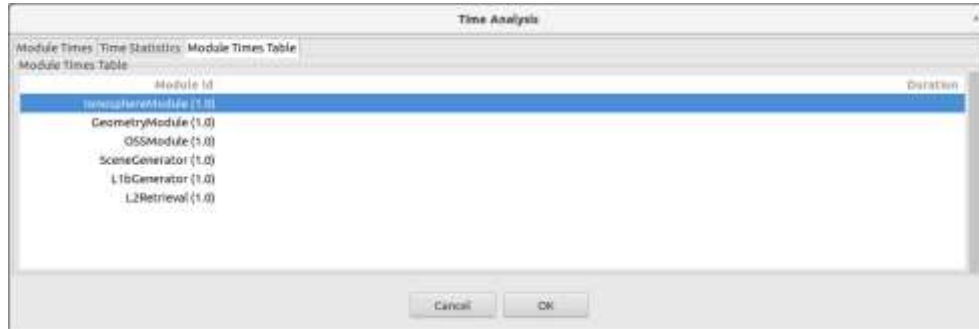

Figure 4-56: Table showing module times
- ❑ *Module Times* Table tab: shows the same information that the bar chart graph but in a table. See Figure 4-56.